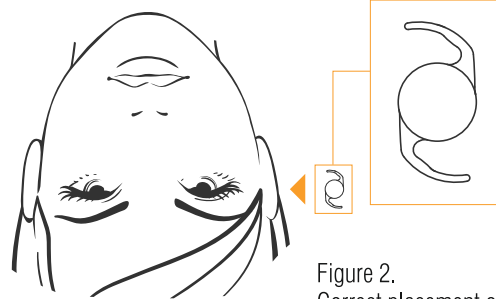

Figure 2.
- 5.9 Prior to insertion, the surgeon should make sure the necessary instrumentation is available. In the capsular bag, the posterior aspheric optical surface of the lens with the sharp angle should adhere to the posterior capsule of the eye's lens. To achieve this, during insertion the lens should be positioned as follows: the haptic element, directed during the insertion of IOL to the patient's nose, should be opened to the left, the haptic element, directed to the patient's forehead, should be opened to the right. (see Figure 2).